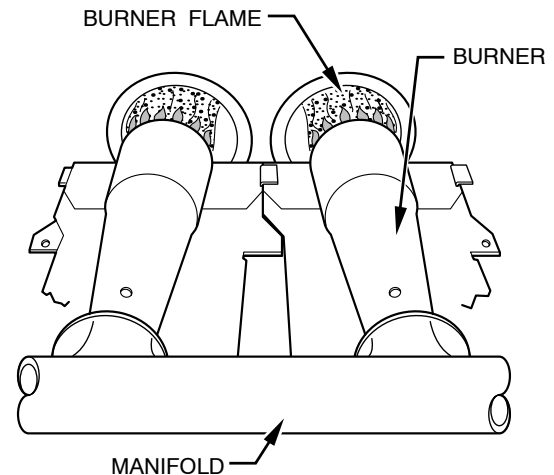

Fig. 48 - Burner Flame
- e. When correct input is obtained, main burner flame should be clear blue, almost transparent (See Fig. 48). Be sure regulator seal cap is in place when finished.
DO NOT re-drill burner orifices. Improper drilling may result in burns, out-of-round holes, etc. Obtain new orifices if orifice size must be changed. (Fig. 48).